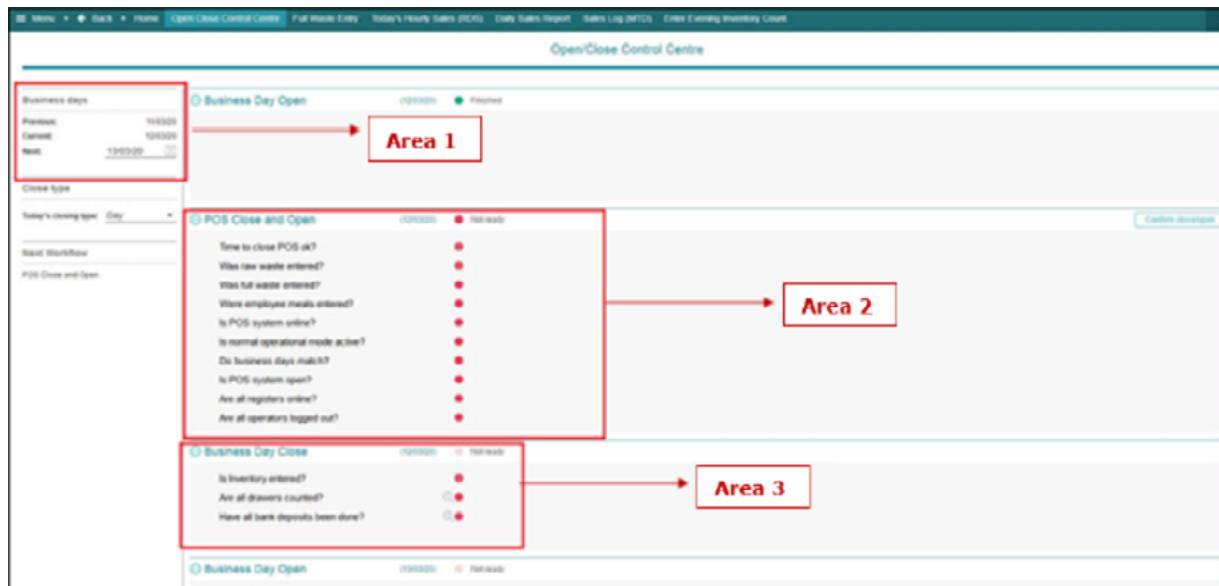

Figure 1: Open/Close Control Centre (OCCC)
(see figure 1):
- Business day on all POS-tills should match the business day on MyStore (see figure 1 & 2).
If the business day on the POS-tills is different to that on OCCC (See figure. 1, note 1), for example due to a period of inactivity, then the business day must be changed on the POS-till.